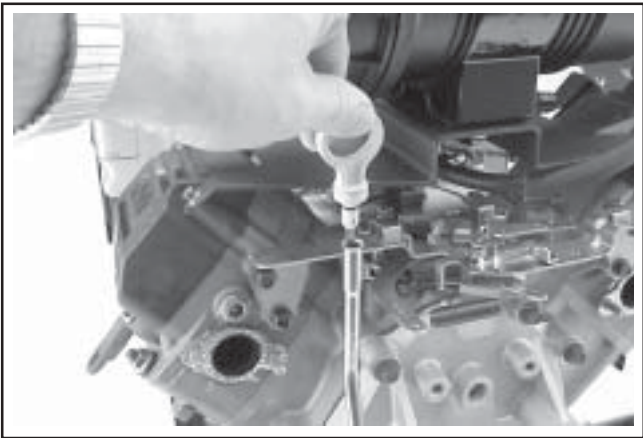

Figure 6-2. Checking Oil Level.
3. Pull out the dipstick and wipe off the oil. Reinstall the dipstick into the tube and push it all the way in. See Figure 6-2.